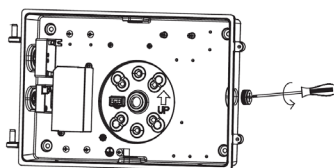
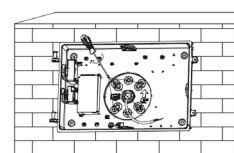

Fig. 2.5
Fig. 2.6
5. Remove the plug (Fig. 2.5) and affix the mounting plate with screws. (Fig. 2.6)